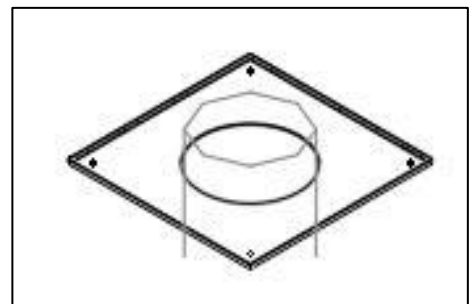

Figure 2-1: SUPREME Radiation Clearance Shield
2. For an installation with the chimney running through the ceiling, install the SUPREME Radiation Clearance Shield below the chimney opening prior to installing the radiation shield (refer to Figure 2-1, 3-6, & 3-8).